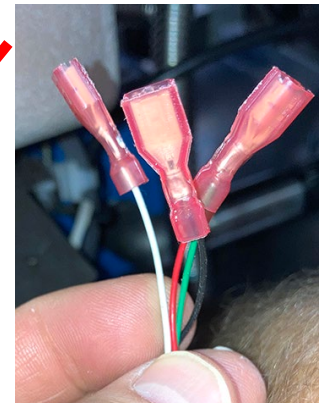

Figure 25
24. Guide the the four (4) dispose valve spade connectors, at the other end of the 15-pin connector, through the slot where the split Heyco bushing was removed, and through the large Heyco bushing in the upper left corner, above and behind the FIB box (see Figures 25 and 26).